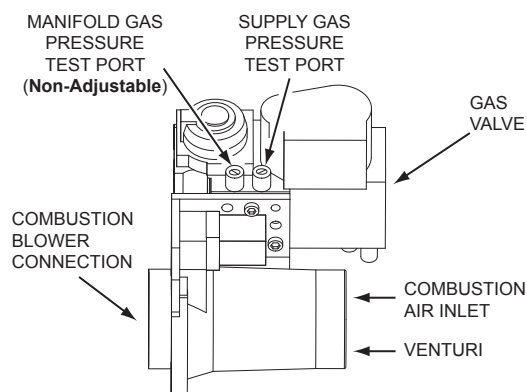
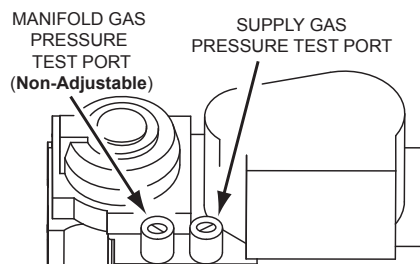

Figure 60. Gas Valve/Venturi Assembly Top View
Figure 61. Gas Valve Top Detail View
4. Wait five (5) minutes for any residual gas to clear.
5. Connect the manometer to the supply gas pressure port on the gas valve. See *Figure 60* (page 55) and *Figure 61* (page 55).
Water heaters covered by this manual have test ports for supply and manifold gas pressure readings on the gas valve. Using a small flat tip pocket screw driver - open the needle valve inside the supply gas pressure test port one full turn only; turn the needle valve screw counter-clockwise to open the valve. Slide the manometer sensing tube over the top of the test port. See *Figure 60* (page 55) and *Figure 61* (page 55).